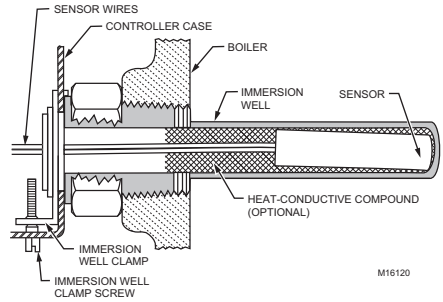

Fig. 2. Position of sensor in immersion well.
If the well is not a snug fit on the sensor, use the heat-conductive compound (furnished with TRADELINE® models) as follows: Fold the plastic bag of compound lengthwise and twist it gently. Then snip off end of bag and work the open end of the bag all the way into the well. Slowly pull out the bag while squeezing it firmly to distribute compound evenly in the well. Bend the wiring, if necessary, to hold the sensor against the bottom of the well and to hold outer end of the sensor in firm contact with the side of the well. See Fig. 2. Wipe excess compound from the outer end of the well.
3. Insert the sensor into the well as shown in Fig. 2 or 3. (See Replacement Sensor Installation section for details.)